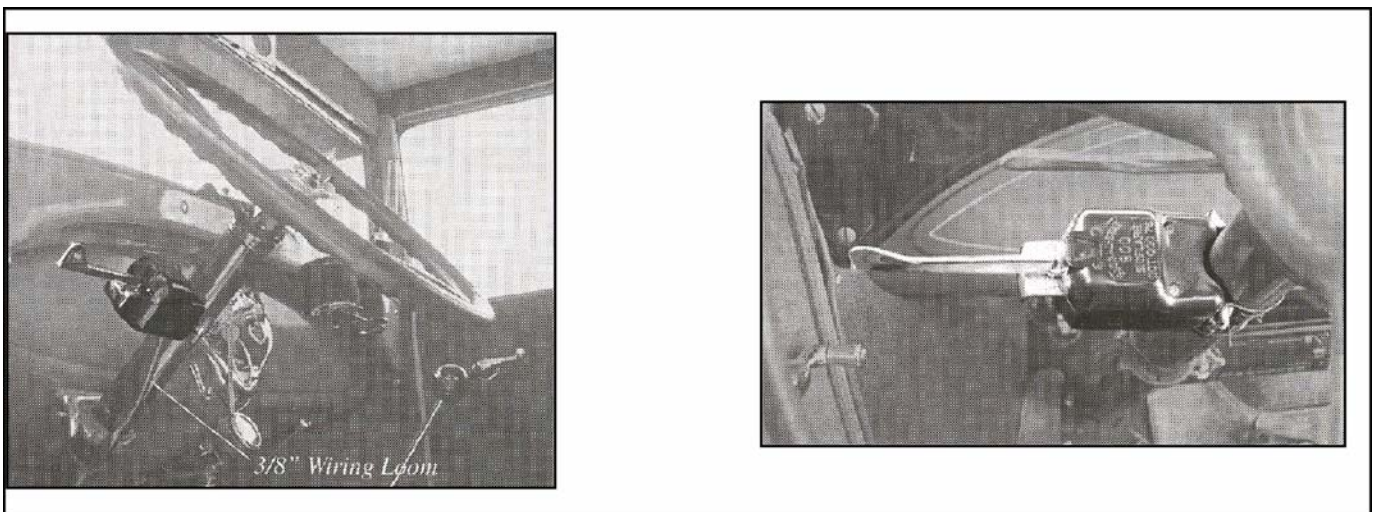

Figure 4-242
5. Attach the clamp to the switch assembly and locate the assembly on the steering column, approximately 3" down from the steering wheel (Figures 4-242). The switch arm should be located far enough down the steering column so it is not inadvertently tripped from hands on steering wheel, but easily reached with the left hand fingers from the steering wheel.
8. Disconnect the battery before making any wiring connections. Make all wire connections from the switch assembly to the terminal strip according to the wiring diagram (Figure 4-245). Connect all wiring from the terminal strip to each light according to the wiring diagram. Keep the wire routing to the front and rear turn signal lights along the frame channel. Contain all wiring in a 3/8" wire loom (Figures 4-242 and 4-244).